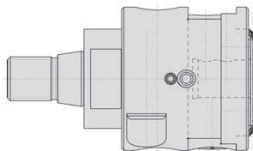

Figure 1
- The machine side of the precision boring tool is equipped with a Walter Capto™ and Walter T45 connection point of **monoblock design** (Fig. 1)